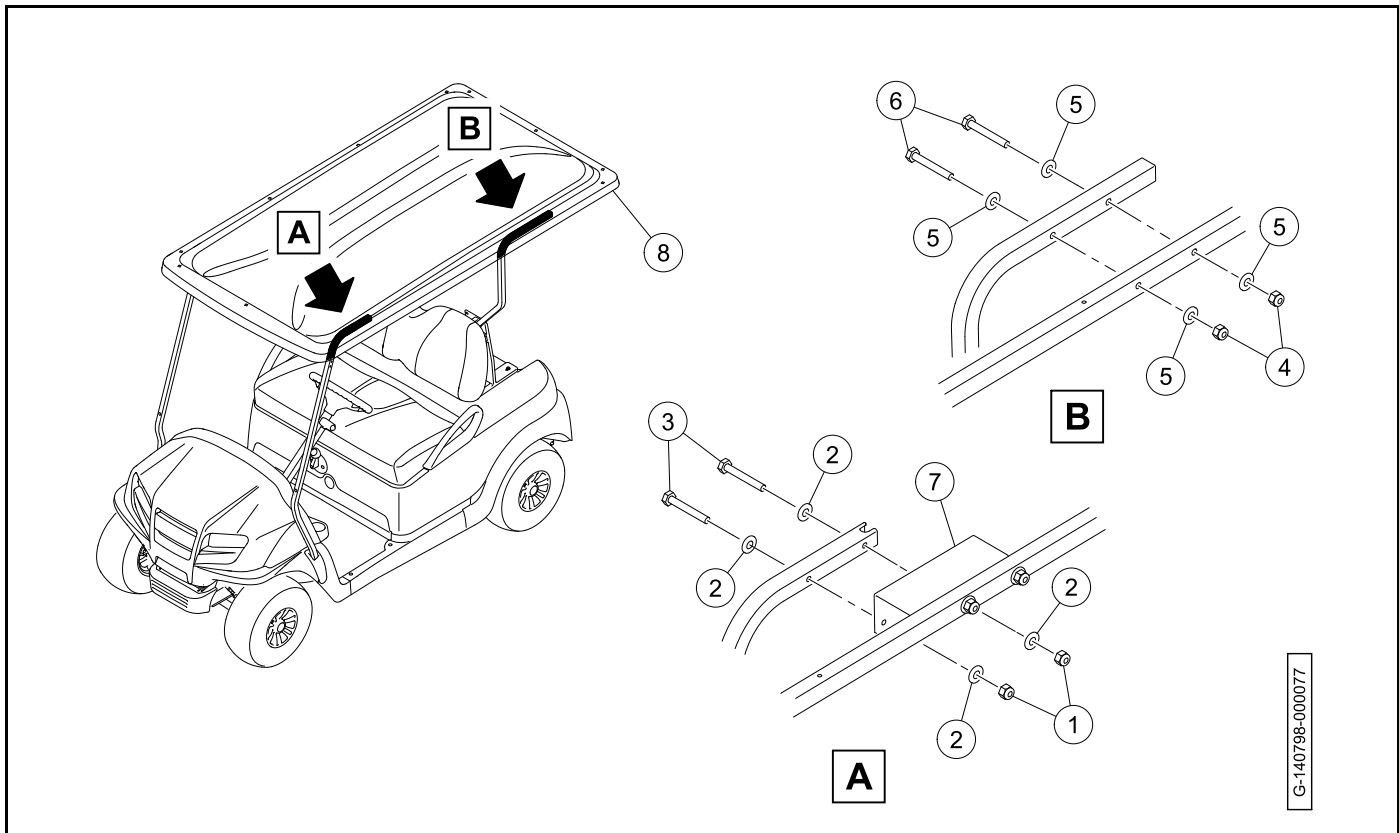

Figure 4-58
- Remove the nuts (1 and 4), washers (2 and 5), and bolts (3 and 6) from the front canopy supports (**Figure 4-58, Page 4-60**).
- Remove the front canopy brackets (7).
- Remove the canopy (8) from the vehicle.
- Install the front canopy brackets (7) onto the front canopy supports (**Figure 4-58, Page 4-60**).
- Position the canopy (8) on the front and rear supports.
- Install the nuts (1), washers (2) and bolts (3) to secure the front canopy supports to the canopy. Tighten the hardware to 55 lb·in (6.2 N·m).
- Install the nuts (4), washers (5), and bolts (6) to secure the rear canopy supports to the canopy. Tighten the hardware to 80 lb·in (9 N·m).